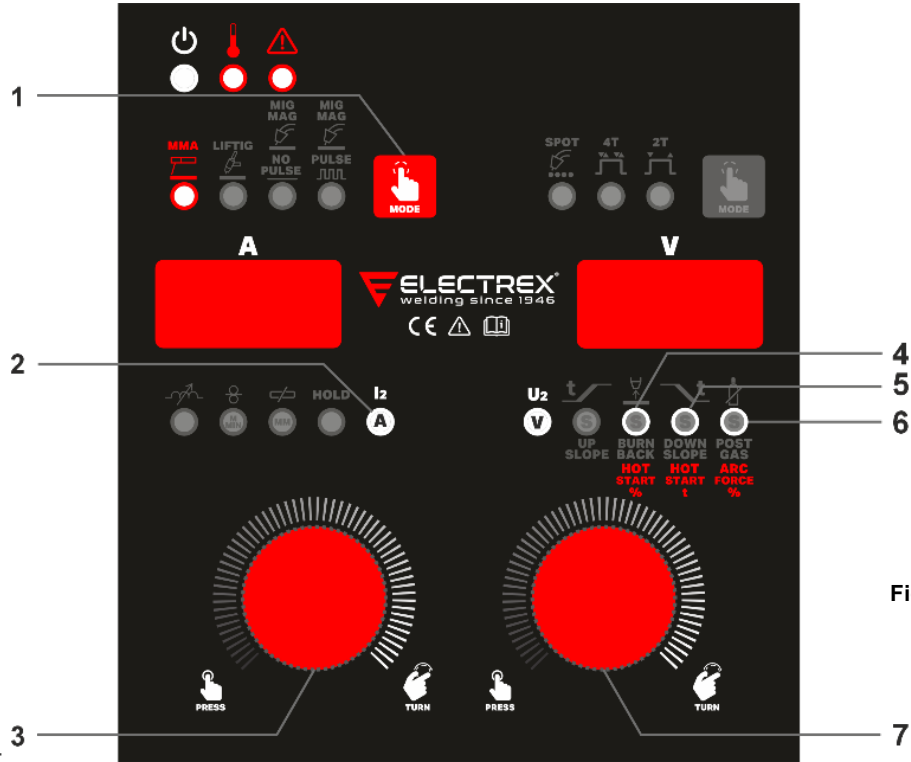

Fig 8.
- Select MMA welding (coated electrode), pressing key 1 (Fig.8) until led MMA lits.
8.3.1. Parameters in MMA welding (coated electrode) (See Fig.8)